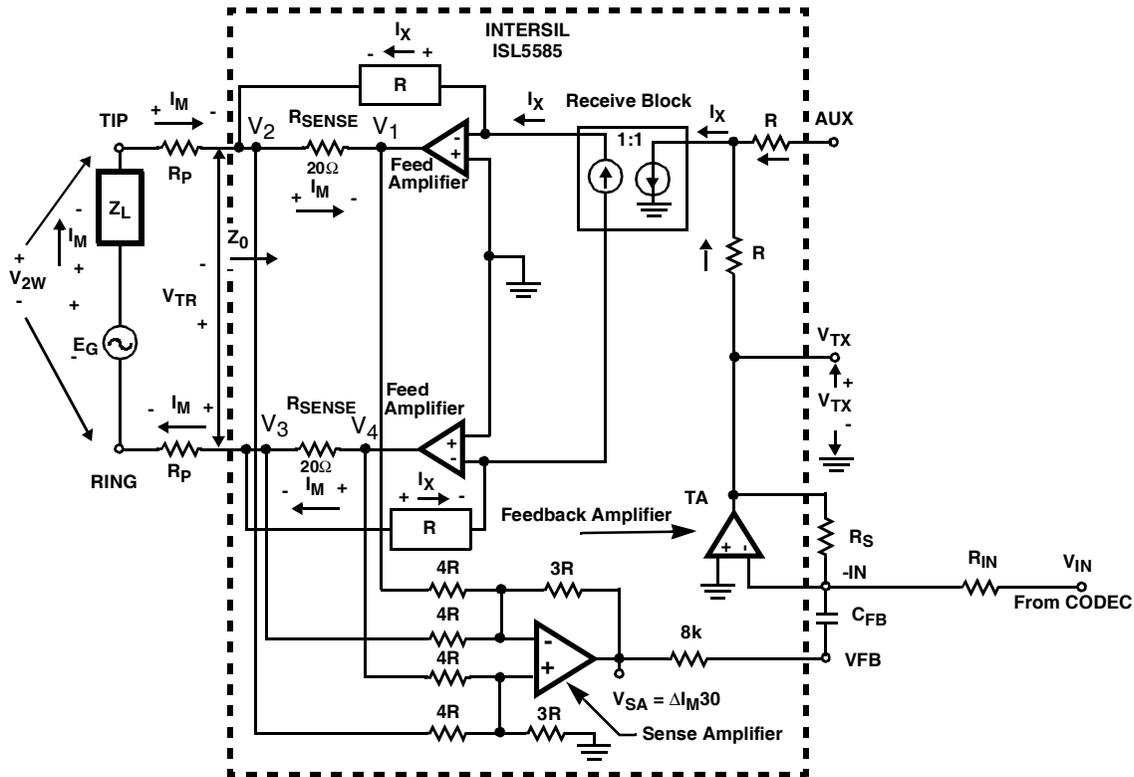

FIGURE 4. AC SIGNAL TRANSMISSION MODEL
The feedback mechanism for monitoring the AC portion of the loop current consists of two amplifiers, the Sense Amplifier (SA) and the Transmit Amplifier (TA). The AC feedback signal is used for impedance synthesis. A detailed model of the AC feed back loop is shown in Figure 4.
The Sense Amplifier is configured as a 4 input differential amplifier with a gain of $3/4$. The voltage at the output of the sense amplifier (V_{SA}) is calculated using superposition. V_{SA1} is the voltage resulting from V_1 , V_{SA2} is the voltage resulting from V_2 and so on (reference Figure 4).
V_{TR} is defined in Figure 4, note polarity assigned to V_{TR} :
Node Equation at ISL5585 AUX input, Figure 4
4-wire to 2-wire gain across the ISL5585 is equal to the V_{2W} divided by the input voltage V_{IN} , reference Figure 4. The receive gain is calculated using Equation 32.
The 2-wire to 4-wire gain is equal to V_{TX}/E_G with $V_{IN} = 0$, reference Figure 4.